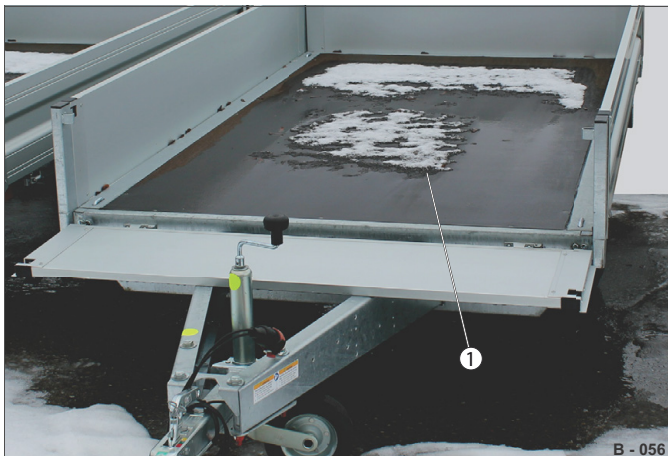

Fig. 99 Snow / ice on cargo bed
- ▶ Regularly clear the roof (Fig. 100 /1) / the cover tarpaulin (Fig. 101 /1) and the cargo bed (Fig. 99 /1) of any foreign bodies, or snow / ice / water load.